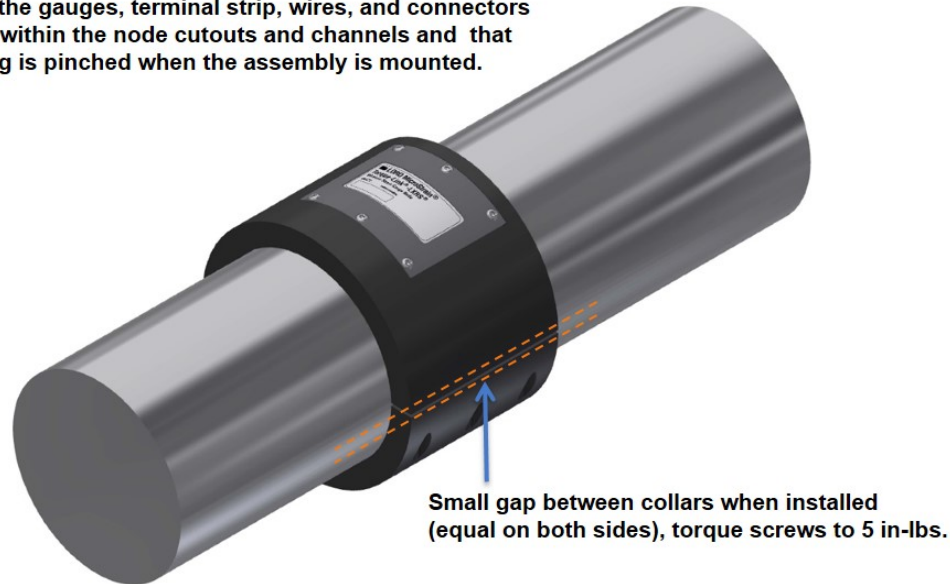

Figure 28 - Assembly Installation
7. Apply the thread locker on the collar screws, and fasten the two halves together, ensuring no wires are pinched. Fasten snugly with 5 inch-pounds of torque. Do not over-tighten. There should be a small gap (equal on both sides) between the collar halves (Figure 28 - Assembly Installation).